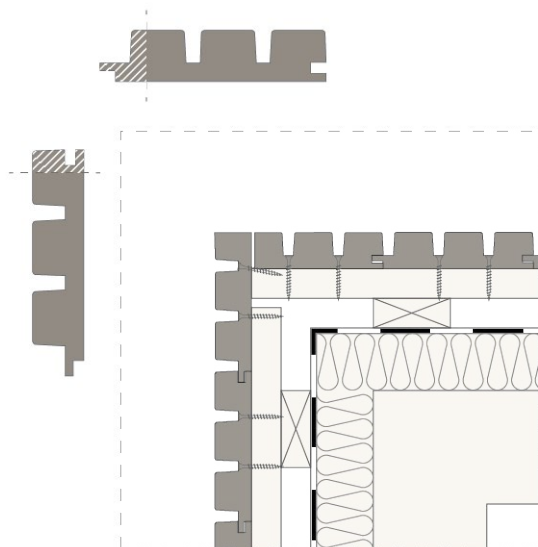

Fig. 3: External corner finishing by cutting off both the tongue and groove edges of the two connecting boards
- by cutting off both the tongue and groove edges of the two connecting boards (see Fig. 3; 4)